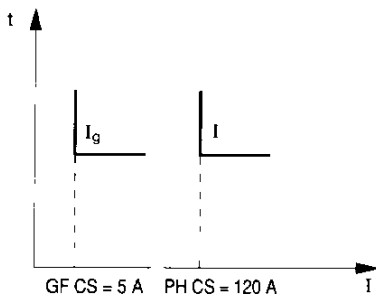

Figure 70: Pickup too low
1. pickup too low: <10% of "PH CT" (figure 70)